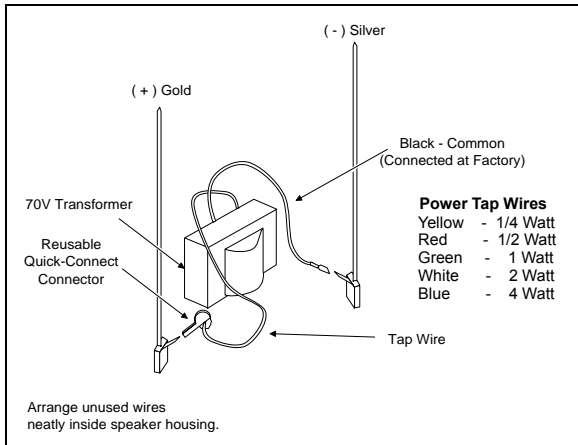

Figure 3. Connecting the Tap Wire
4. Connect the power-tap wire to the gold (+) terminal (See Figure 3).